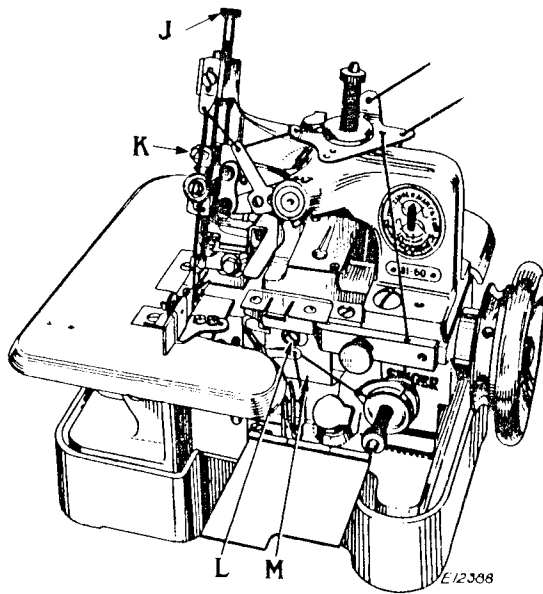

Fig. 9. Adjustments on the Machine
The pressure on the material is regulated by means of the thumb screw (J, Fig. 9). To increase the pressure, turn this thumb screw downwardly. To decrease the pressure, turn the thumb screw upwardly.
The length of stitch is regulated by means of the adjusting screw (L, Fig. 9) in the feed eccentric. This screw faces directly outward.
To change the length of stitch, turn the machine pulley until the lock screw in the feed eccentric appears in the hole of the cover (M, Fig. 9). This screw faces slightly downward. Loosen the lock screw. Then turn the machine pulley until the adjusting screw (L) is visible through the hole in the cover (M). Turn the adjusting screw (L) over to the right for a long stitch. Turn this screw over to the left for a short stitch. Then turn the machine pulley over until the lock screw appears and securely tighten this screw.
Now turn the machine pulley over from you until the needle bar has risen $\frac{3}{32}$ inch from its lowest position. The point of the left hand looper, on its loop taking stroke, should then be at the centre of the needle, and the eye of the needle should be about $\frac{1}{16}$ inch below the looper point. If the needle bar is not at the correct height, loosen the pinch screw (K, Fig. 9) and move the needle bar upward or downward as required, then securely tighten the pinch screw (K).